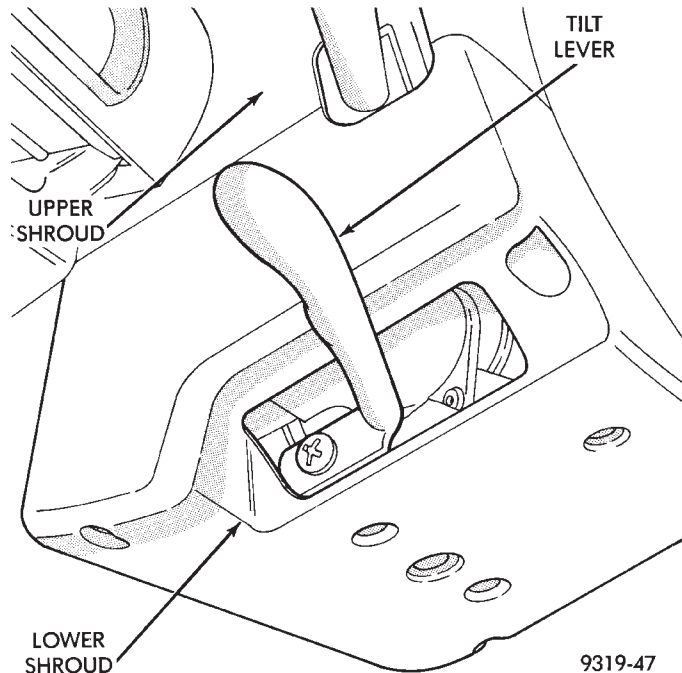
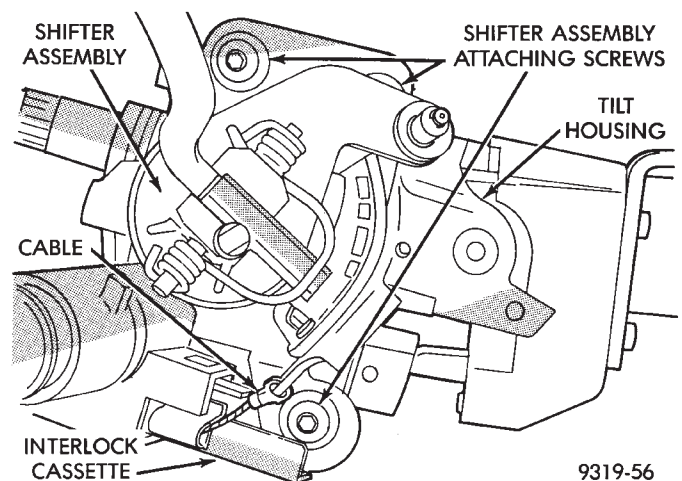

Fig. 27 Tilt Lever And Upper And Lower Shrouds
Fig. 28 Shifter Assembly Attachment To Tilt Housing
(1) Remove the tilt lever and the upper and lower steering column shrouds from steering column assembly (Fig. 27). Then remove center outlet bezel.
(2) Remove the gear shift cable from the attaching pin on the gear shift assembly.
(3) Unlock shift cable adjuster.
(4) Remove the 3 Torx head screws attaching the shifter assembly to the steering column tilt housing (Fig. 28). Then remove shifter assembly from tilt
housing and unhook interlock cable from shifter assembly (Fig. 28).
(1) Install new shifter assembly on tilt housing of steering column. Install and securely tighten the 3 Torx head screws attaching shifter assembly to tilt housing.
(2) Install cable from the new interlock cassette, onto the interlock lever of the shifter assembly (Fig. 28).
(3) With shifter assembly in the park position and ignition key extracted from ignition switch. Install the new **NEW interlock cassette into steering column. Be sure interlock cassette locking tab is securely latched.**
(4) Install the gear shift cable onto the cable attaching pin on shifter assembly.
(5) Adjust interlock cassette. Refer to the Ignition Switch And Interlock Section of Group 8 for the required operation check and adjustment procedure of the interlock system.
(6) Lock the gear shift cable adjuster.
(7) Install upper and lower shroud on steering column assembly and tilt lever (Fig. 27).